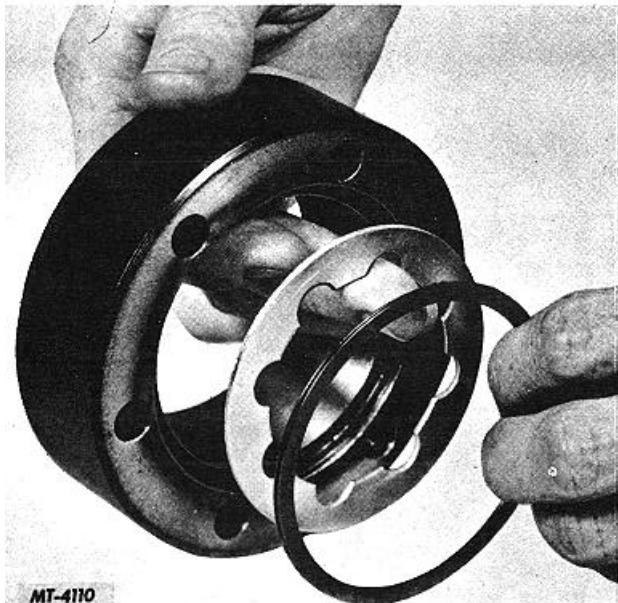

Fig. 18. Removing Spirolox Lock Ring and Thrust Washer
Remove the Spirolox lock ring (15) and thrust washer (13) from the hub body (6). See Fig. 18.
Install thrust washer (13) in hub body (16). Place the Spirolox lock ring (15) in its groove in the hub body (6) to hold the thrust washer in position, Fig. 18.